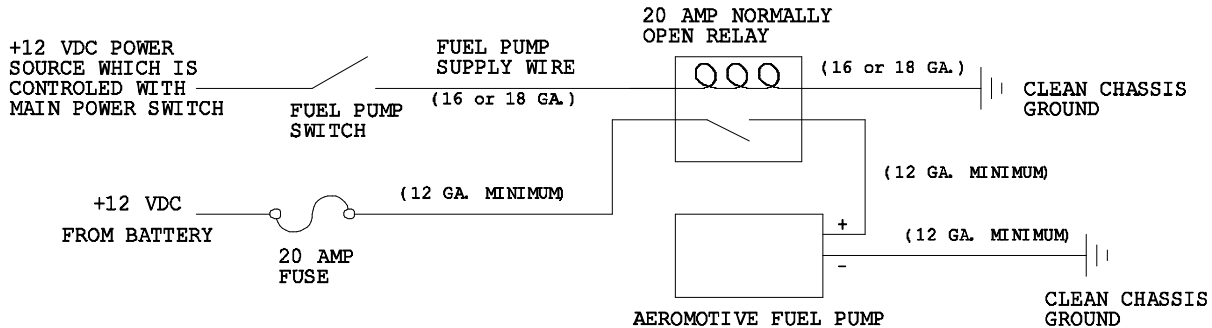

Figure 2-1
39. Prep the new tank by making all the necessary connection (feed, return, vent and electrical) before placing tank in vehicle. In most cases, once the tank is placed in the vehicle these connection will not be accessible. For electrical wiring refer to **Figure 2-1**.